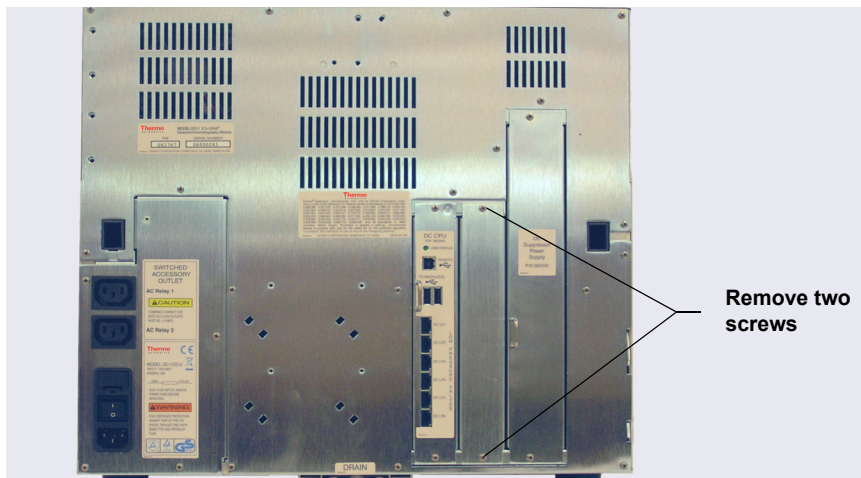

Figure 10-39. DC Rear Panel: Removing the I/O Option Cover Plate
4. On the DC rear panel, remove the two screws that attach the I/O option cover plate or the existing I/O option board to the rear panel (see Figure 10-39). Save the screws.